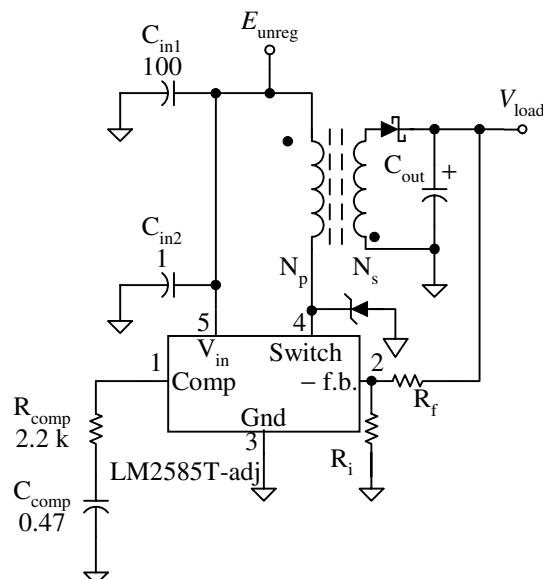

Figure 7-19 Schematic for Problems 7-17 through 7-20
- 7-2** Analyze the circuit in Figure 7-19, calculate the following, given:
- 7-17** Analyze the circuit in Figure 7-19. Calculate the following, given:
- 7-19** Design the circuit in Figure 7-19. Calculate the following, given:
- 7-20** Design the circuit in Figure 7-19. Calculate the following, given: